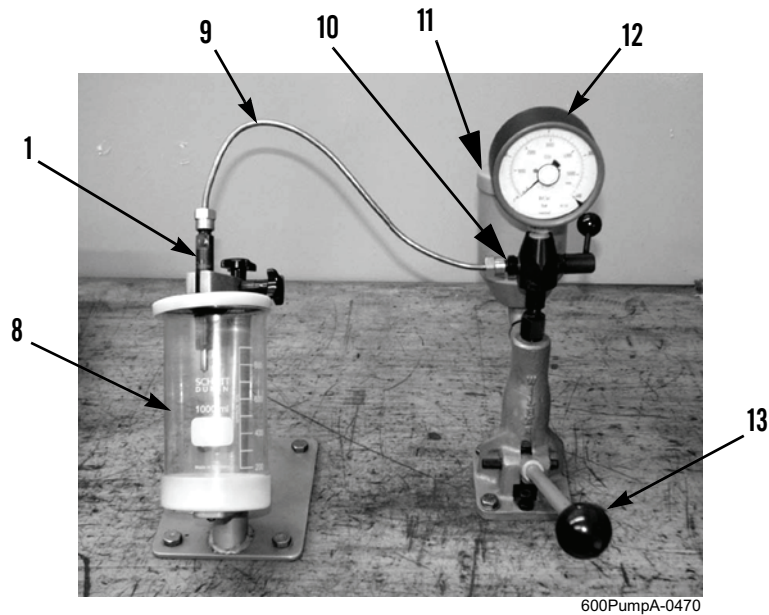

Figure 4. Nozzle Tester and Gauge.
3. Fill reservoir (Figure 4, Item 11) of nozzle tester with clean fuel.
4. Install lever (Figure 4, Item 13) on nozzle tester.
5. Operate lever (Figure 4, Item 13) until clear fuel (without air bubbles) flows from supply port (Figure 4, Item 10).
6. Install supply tube (Figure 4, Item 9) between supply port (Figure 4, Item 10) and fuel injector (Figure 4, Item 1).
7. Loosen supply tube fitting at fuel injector (Figure 4, Item 1) and operate lever (Figure 4, Item 13) to purge air from supply tube (Figure 4, Item 9). Tighten supply tube fitting.
8. Turn on pressure gauge (Figure 4, Item 12) and operate lever (Figure 4, Item 13) of nozzle tester. Pressure at which pressure gauge pointer stops, or suddenly drops, is the opening pressure. Note opening pressure.
- b. If opening pressure is not 200 + 10 bar (2,901 + 145 PSI), fuel injector (Figure 4, Item 1) must be replaced.
10. Operate lever (Figure 4, Item 13) on nozzle tester slowly up to about 20 bar below opening pressure previously observed in step 8.
- a. Install fuel injector (Figure 4, Item 1) in collector cup (Figure 4, Item 8) and connect supply tube (Figure 4, Item 9).
- b. Turn off pressure gauge (Figure 4, Item 12).
- c. Operate lever (Figure 4, Item 13) rapidly and listen for buzzing sound emitted by fuel injector (Figure 4, Item 1). Note spray pattern to ensure it is well atomized.
- d. If no buzzing sound is heard or spray pattern is not well atomized, fuel injector (Figure 4, Item 1) must be replaced.